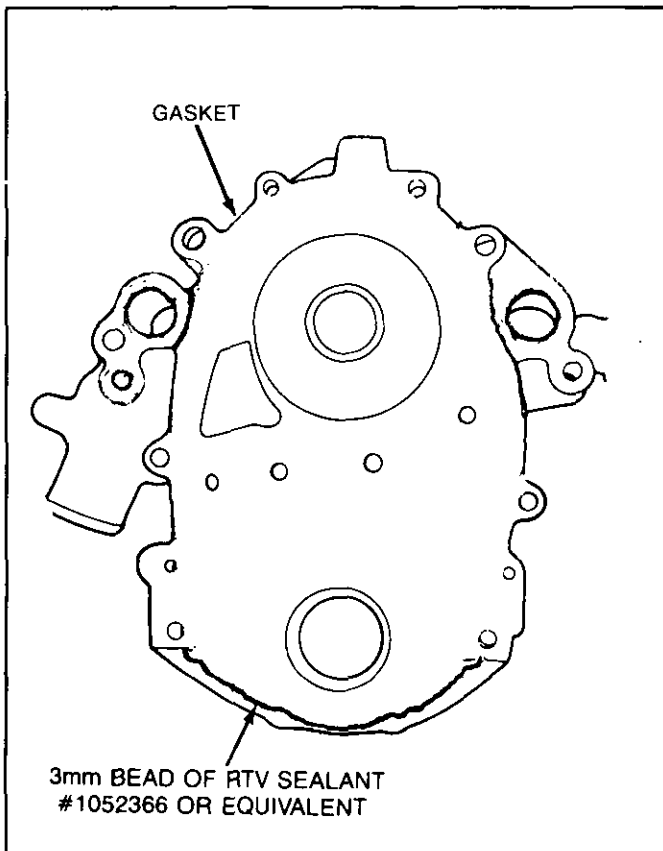

Figure 18 Front Cover Sealant Placement
2. Apply a continuous 3mm (1/8") bead of GM 1052917 RTV sealer or equivalent to oil pan sealing surface of front cover (Figure 18).